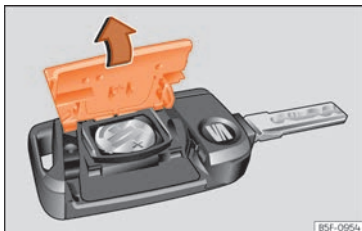

Fig. 119 Vehicle key: opening the battery compartment.
- Remove the cover from the back of the vehicle key » **Fig. 119** in the direction of the arrow » **!**.
- Fit the cover as shown » **Fig. 119**, pressing it onto the vehicle key casing in the opposite direction to that shown by the arrow until it clicks into place.